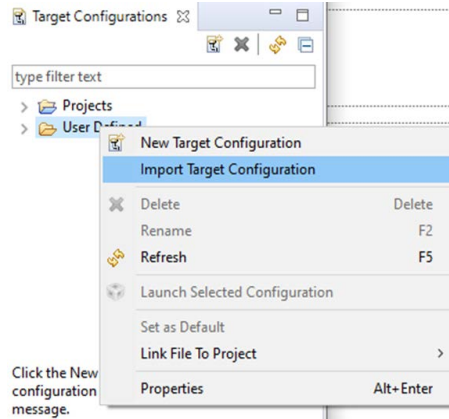

Figure 6: Import Target Configuration
3. Right click on **User Defined**. Choose **Import Target Configuration** (Figure 6).
When assembling the heatsink, it may be necessary add a thin insulation layer to prevent the heat-spreader from short circuiting with components that have exposed conductors such as capacitors and resistors, as shown in figure 6. Note that the heat-spreader is ground connected by the lower most mounting post. A rectangular opening in the insulator must be provided to allow the TIM to be placed over the FETs to be cooled with sufficient clearance of 3 mm on each side of the rectangle encompassing the FETs. The TIM will then be similar in size or slightly smaller than the opening in the insulator shown in figure 16.